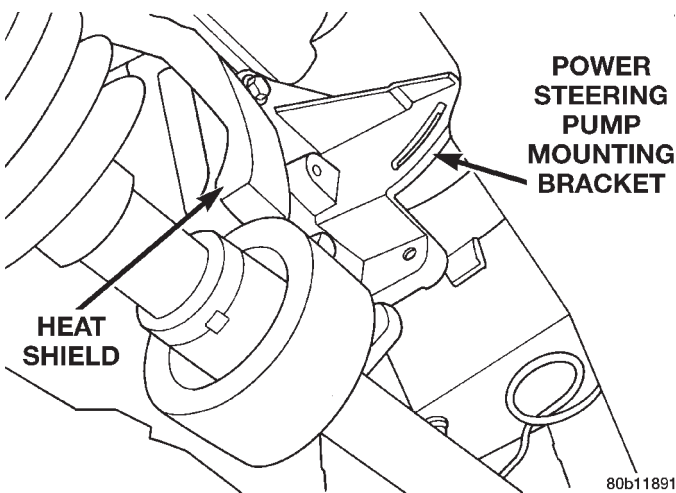
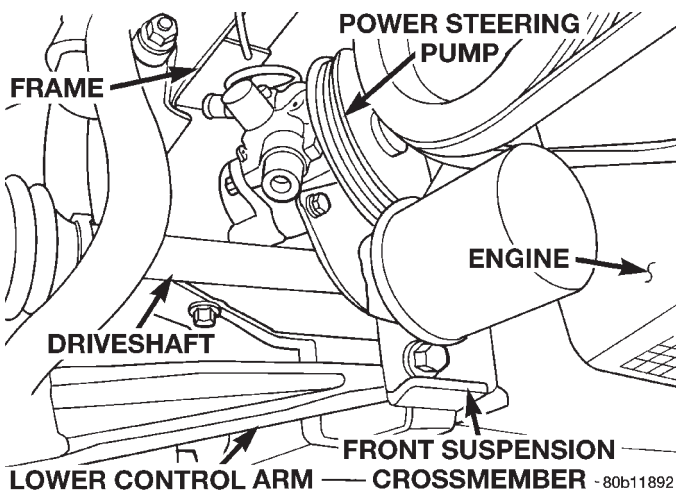

Fig. 12 Power Steering Pump Mounting Bracket
Fig. 13 Power Steering Pump Removal
NOTE: The power steering pump can not be removed from the vehicle without first removing the power steering pump mounting bracket (Fig. 12) from the engine.
(16) Remove power steering pump and its front mounting bracket as an assembly from the engine mounted power steering pump mounting bracket. Place the power steering pump on top of the antilock brakes hydraulic control unit.
(17) Remove the power steering pump mounting bracket (Fig. 12) from the rear of the engine.
(18) Remove power steering pump and front mounting bracket as an assembly from the engine and vehicle. Pump and mounting bracket is removable by bringing it out through the area between frame, rear of engine, driveshaft and front suspension crossmember (Fig. 13).
(1) Install power steering pump and mounting bracket as an assembly back in vehicle, using reverse order of removal (Fig. 13).
(2) Place the power steering pump on top of the antilock brakes hydraulic control unit.
(3) Install the power steering pump mounting bracket on the rear of the engine (Fig. 12). Tighten the mounting bracket attaching bolts to a torque of 54 N·m (40 ft. lbs.).